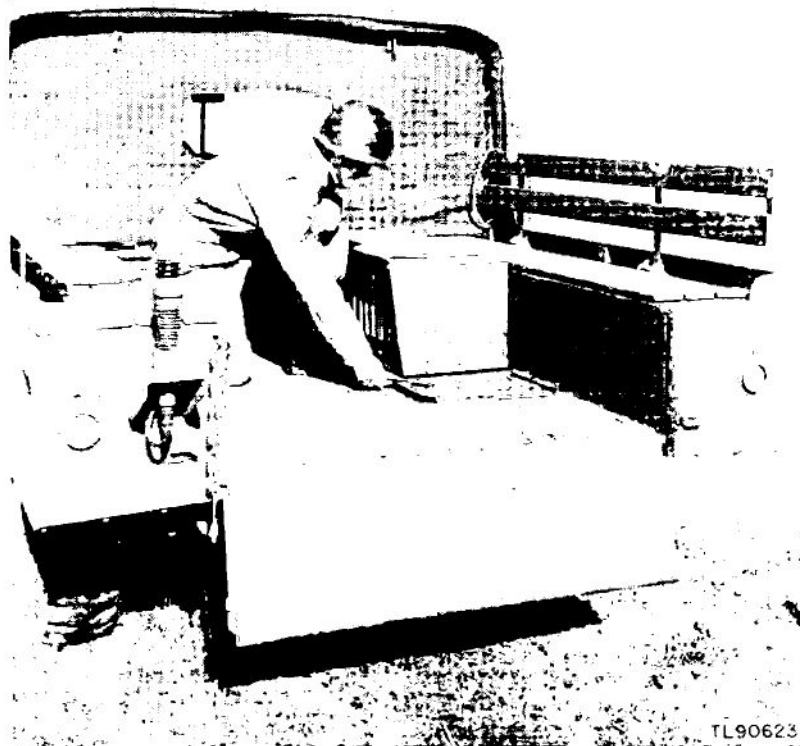

Figure 20. Bolting mounting plate to floor of vehicle.
b. Bolt Mounting Plate Ft-492 to the floor of the vehicle, using any 2 or 3 of the 22 holes in the plate (fig. 20). Then bolt the antenna mount to the universal mounting plate flanges by two bolts in the front and two bolts in the rear. Ground the antenna mount with the grounding strap to the vehicle chassis. Position the antenna mount so the control panel is easily accessible.